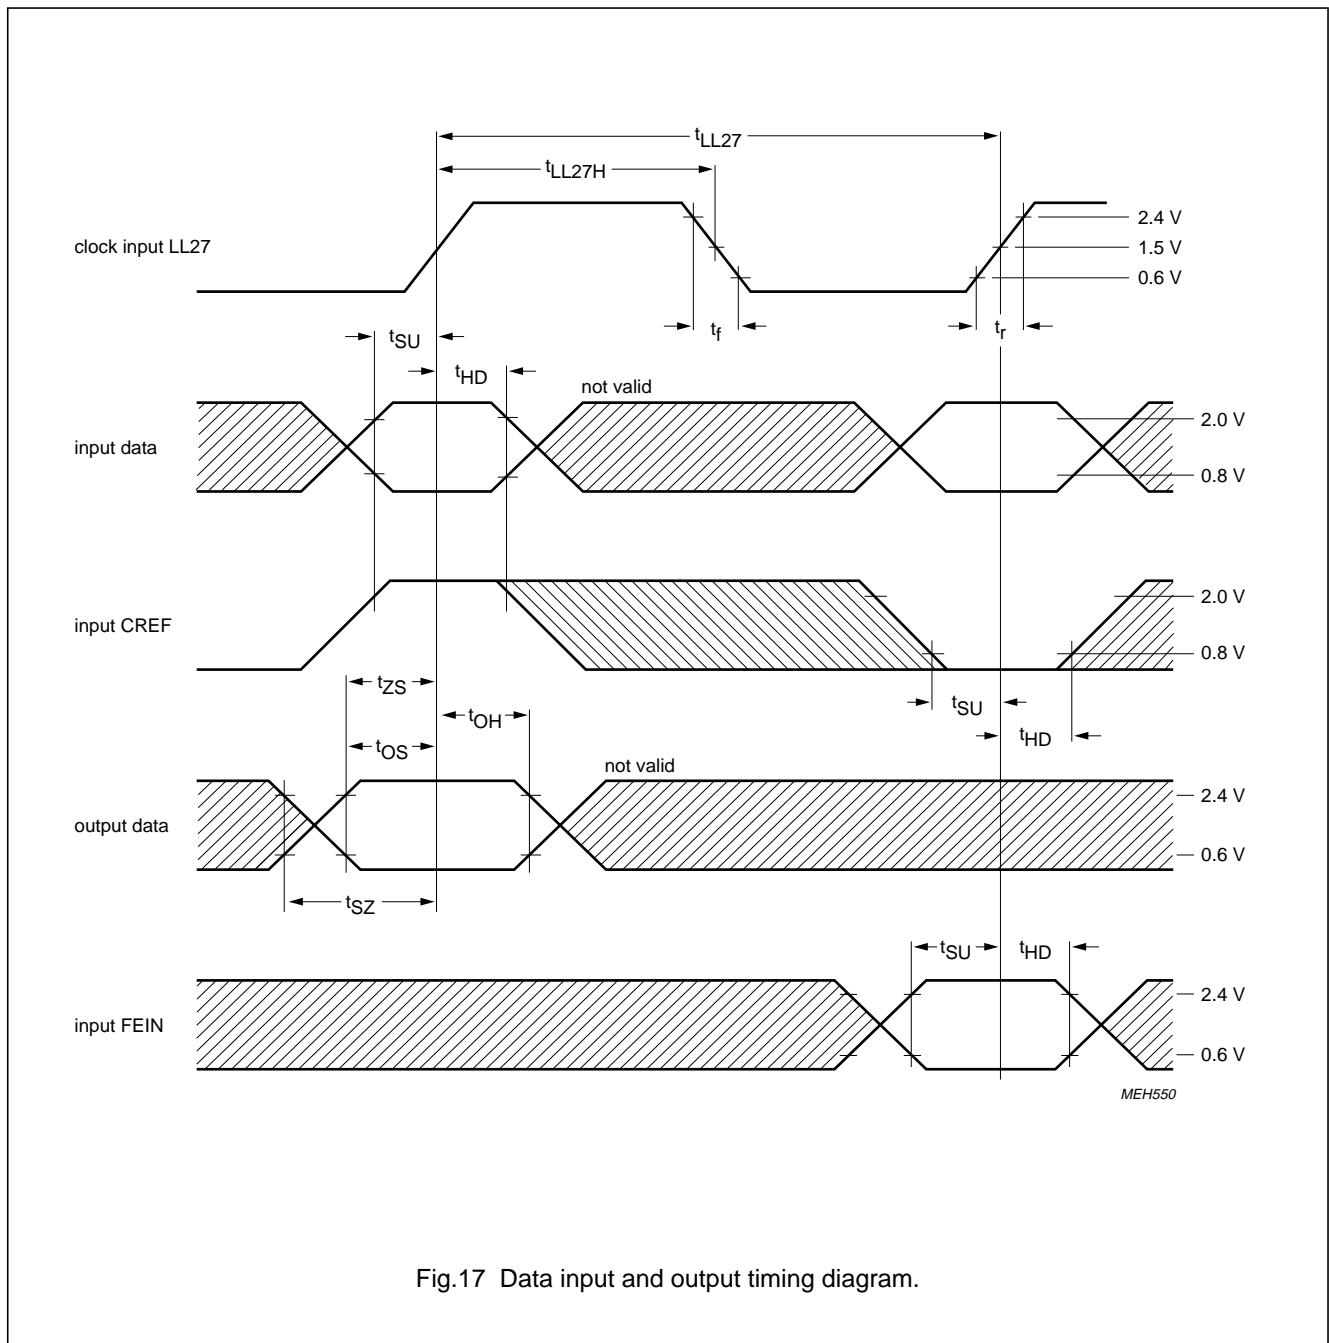

Fig.17 Data input and output timing diagram.
**Table 4** High-impedance control for YUV-bus (Fig.17)